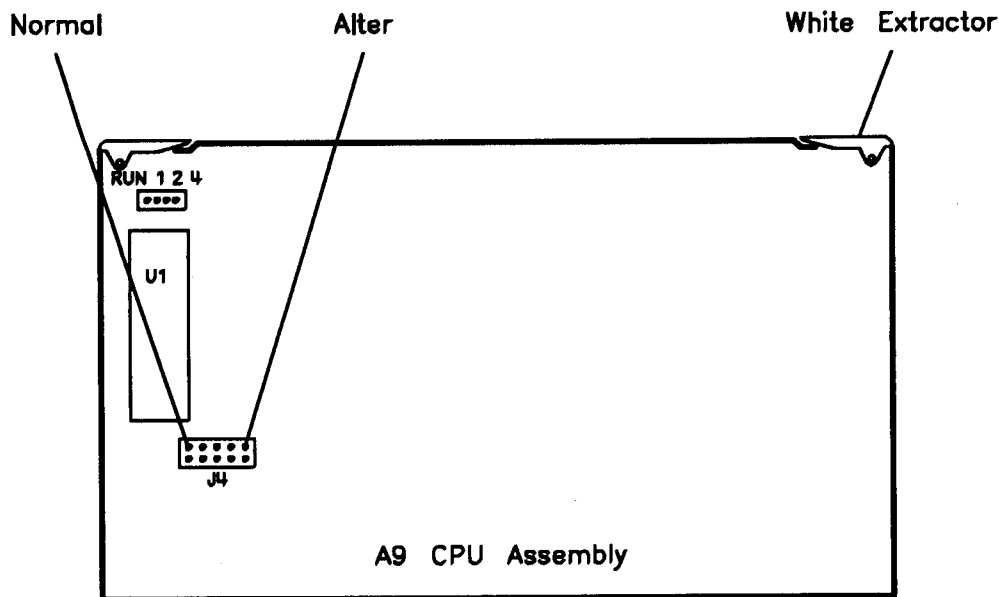

Figure 5-1. A9 CC Jumper Location
2. The location of the assemblies in the upper portion of the instrument is shown on a label on the under side of the top cover. Remove the A9 CPU assembly and move the A9 CC jumper to the ALTER position (see Figure 5-1).